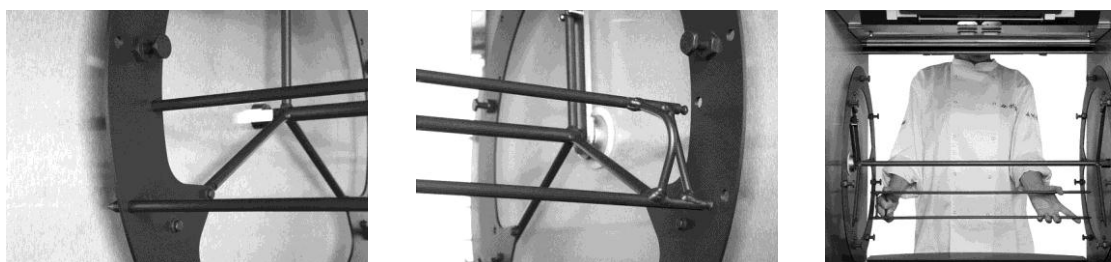

Figure 7
4. Put the points of the meat forks through the appropriate holes in the rotor disks (see Figure 7).